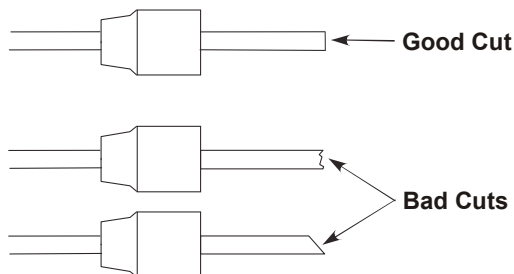

Figure 19 Good cuts and bad cuts
4. Using the edge of a wafer scribe, score the outside surface of the column perpendicular to its length approximately 2 inches from the end and carefully break it off and discard the cut off piece of column. Jagged or angled cuts should be avoided. See Figure 19 for examples of good cuts and bad cuts.